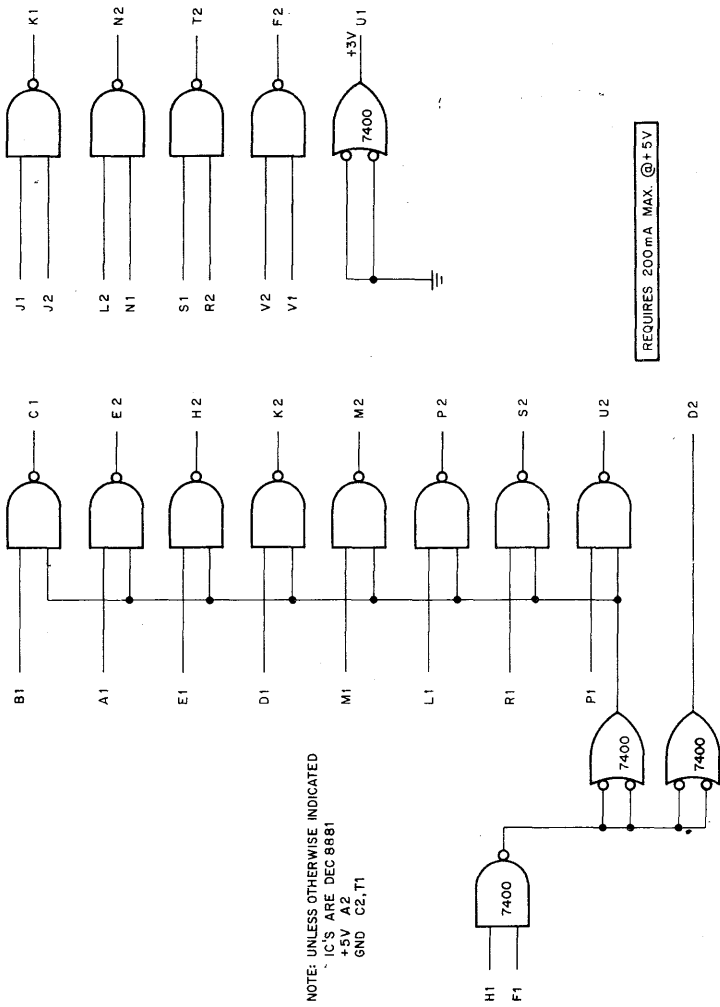

Figure 2-6 M783 UNIBUS Transmitter (schematic diagram)
2.2.3.1 M783 UNIBUS Transmitter - This transmitter module contains 12 drivers; 8 drivers have a common gate line, 4 have 2-input positive AND gating. Input loading is 1.25 standard TTL load. The module is a single-height, 8.5 inch-long Flip-Chip. A circuit schematic of the M783 Transmitter is shown in Figure 2-6.